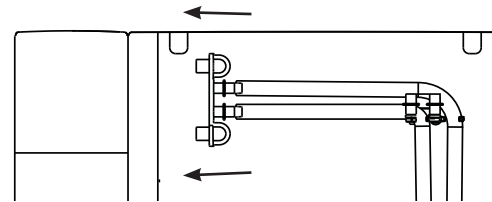

Figure 8
- Unhook the top of the drain hoses at the back of the unit. See figure 8.